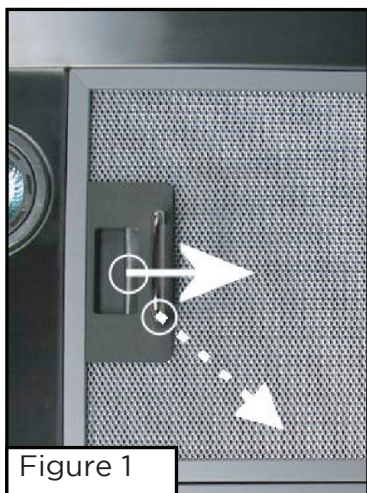

Figure 1
7. Disconnect power cord, remove the aluminum filter by pressing on the latch toward the direction of solid arrow while holding the metal handle, gently pull the aluminum filter toward the direction of dashed arrow as shown in Figure 1.